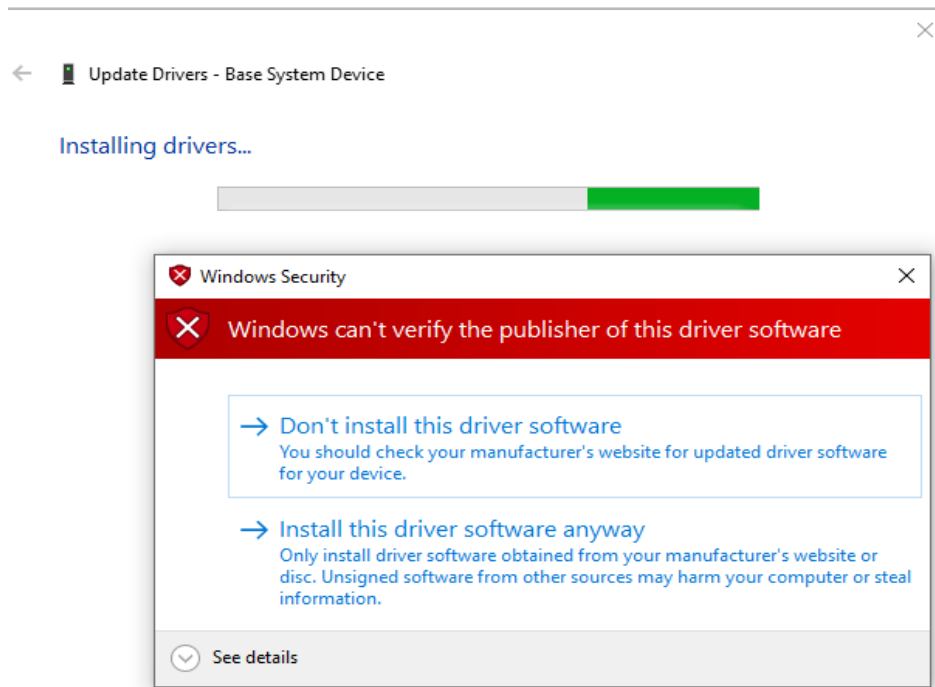

Figure 5.49. Windows Security in Device Manager
- If you receive a Windows Security prompt, select **Install this driver software anyway** as shown in Figure 5.49.